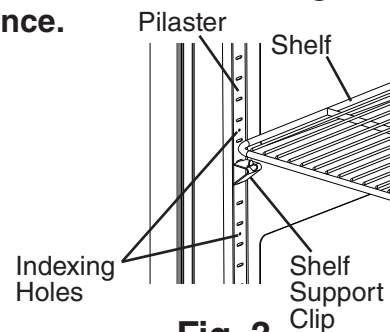

Fig. 3
- 1) Place the shelf support clips into the pilasters (4 shelf support clips per shelf). Indexing holes are provided on the pilasters in evenly spaced intervals to assist in positioning the support clips at the same height. See Fig. 3.